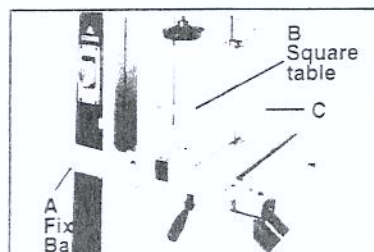

Fig. 7
- Setting the fixed base(A,.Fig.7) to the cast iron table with two hex head blot m6x20, two spring washer m6.
- Setting the square tube (B, Fig.7) to the table with 2 hex socket bolt m6x16.
- Setting the fence (A. Fig 7) to the fence body, place the fence assembly on the fixed base, slide the fence on its guides until it is the required distance from the blade.